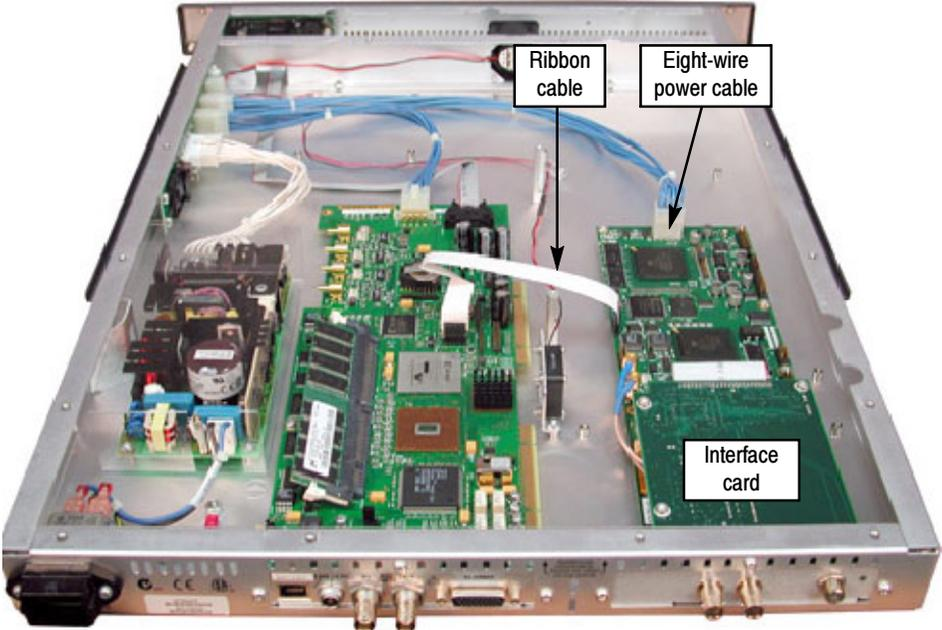

Figure 2: 8VSB interface card location
2. Locate the 8VSB interface card in your instrument (see Figure 2). The interface card is mounted on the right side of the instrument as viewed from the rear.
3. Remove the cables connected to the interface card (see Figure 2 and Table 1):
13. Connect the cables to the interface card (see Figure 2 on page 5 and Table 1 on page 4):